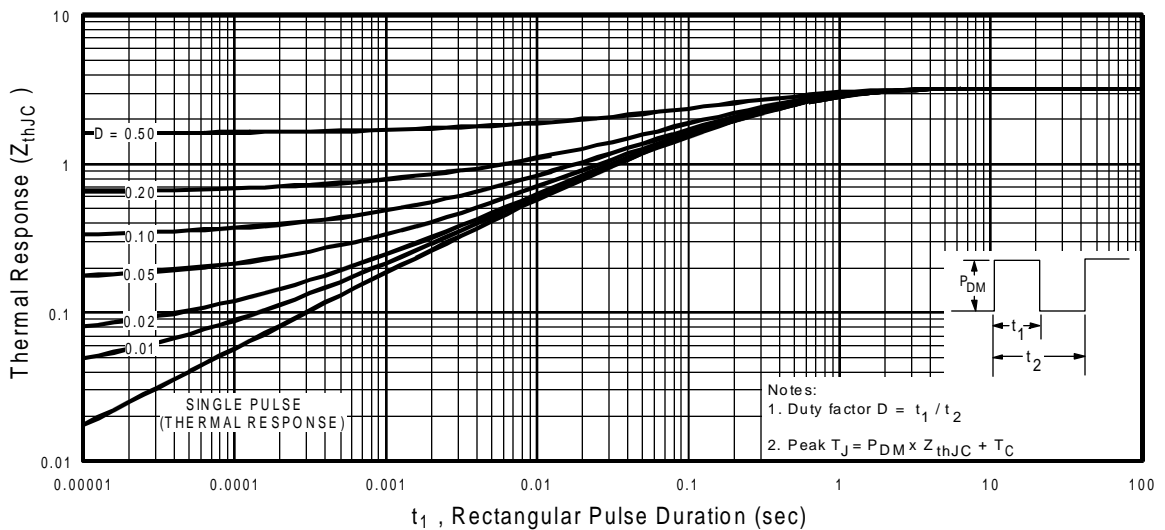

Fig 11. Maximum Effective Transient Thermal Impedance, Junction-to-Case
- ① Repetitive rating; pulse width limited by max. junction temperature. (See fig. 11)
- ② $V_{DD} = 15V$, starting $T_J = 25^\circ\text{C}$, $L = 220\mu H$